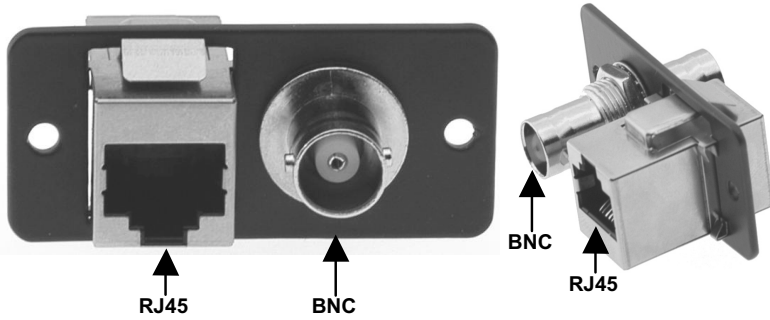

Figure 8: WB45 Passive RJ45/BNC Connector Module
- **WB45** (an RJ45/BNC connector module, as Figure 8 illustrates)